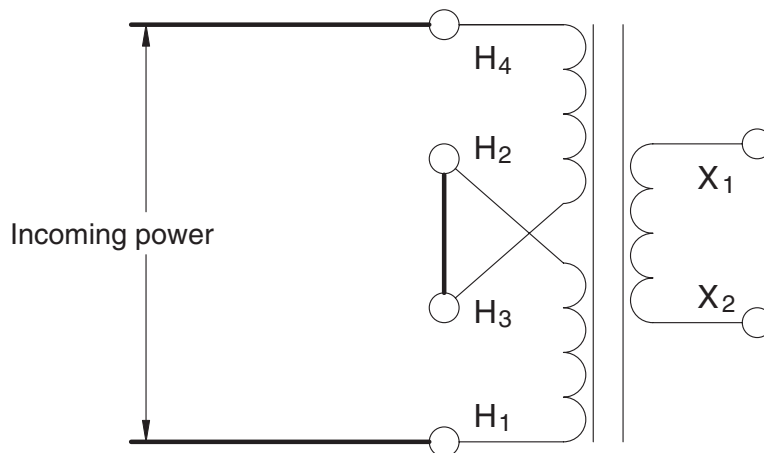

Figure 19-10 High-voltage windings connected in series.
When this transformer is operated with 480 volts connected to the primary, the high-voltage windings are connected in series by connecting H_2 to H_3 and connecting power to H_1 and H_4 , as shown in Figure 19-10. This effectively doubles the primary turns, providing a 4:1 turns-ratio with the low-voltage winding.
9. Disconnect the wires connected to the transformer and reconnect the transformer as shown in Figure 19-10. The two high-voltage windings are connected in series by connecting H₂ and H₃ together. This connection changes the turns-ratio of the transformer from 2:1 to 4:1. Make certain that the incoming power is connected to terminals H₁ and H₄.